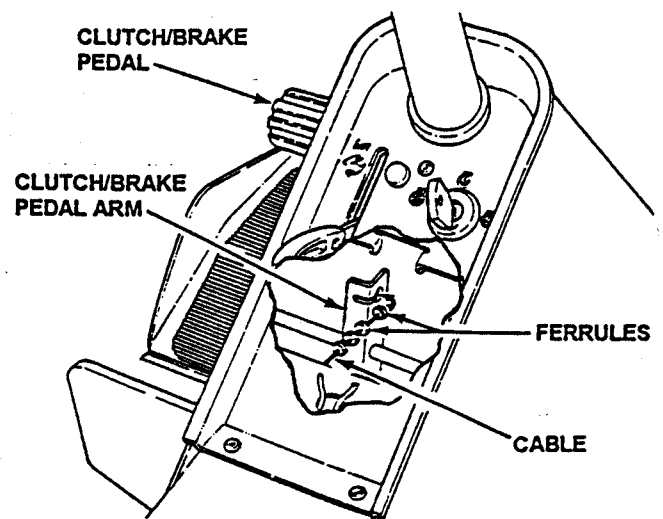

FIGURE 4.15
6. Pull clutch/brake pedal towards operator's seat and slide 1 additional ferrule toward end of cable and through the eye in the clutch/brake pedal arm. See Figure 4.15.